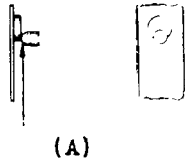

FIG. 3 - Contact Alignment
2.05 Contact Alignment - Fig. 3 (A) - Contacts shall line up so that the point of contact falls wholly within the boundary of the opposing contact. Gauge by eye.